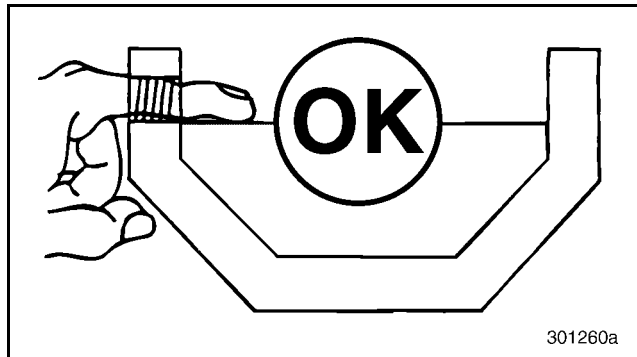
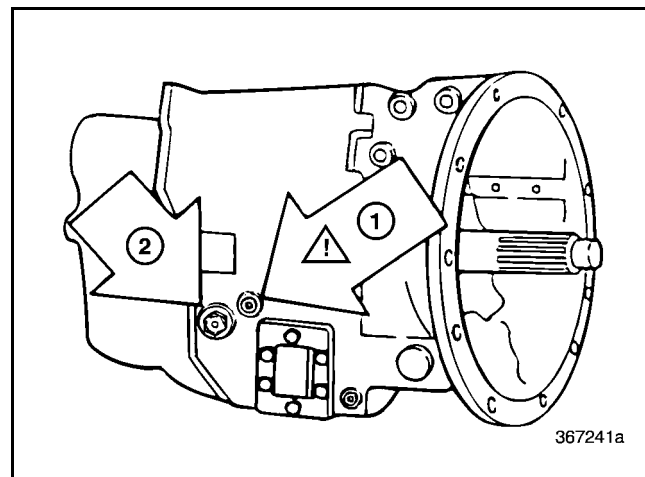

Figure 22 — Correct Oil Level
Figure 25 — Oil Filler and Check Plug
- Remove the oil filler plug (2) (Figure 25), then fill the transmission using specified oil until the oil is level with the bottom of the filler plug hole (also see Figure 22). Do NOT overfill.